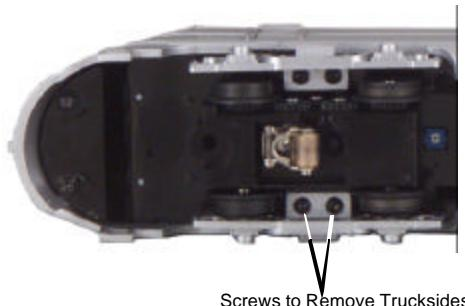

Figure 10a. Changing the traction tires on the front truck
- Remove the truck sides by removing the screws shown in Fig 10a.